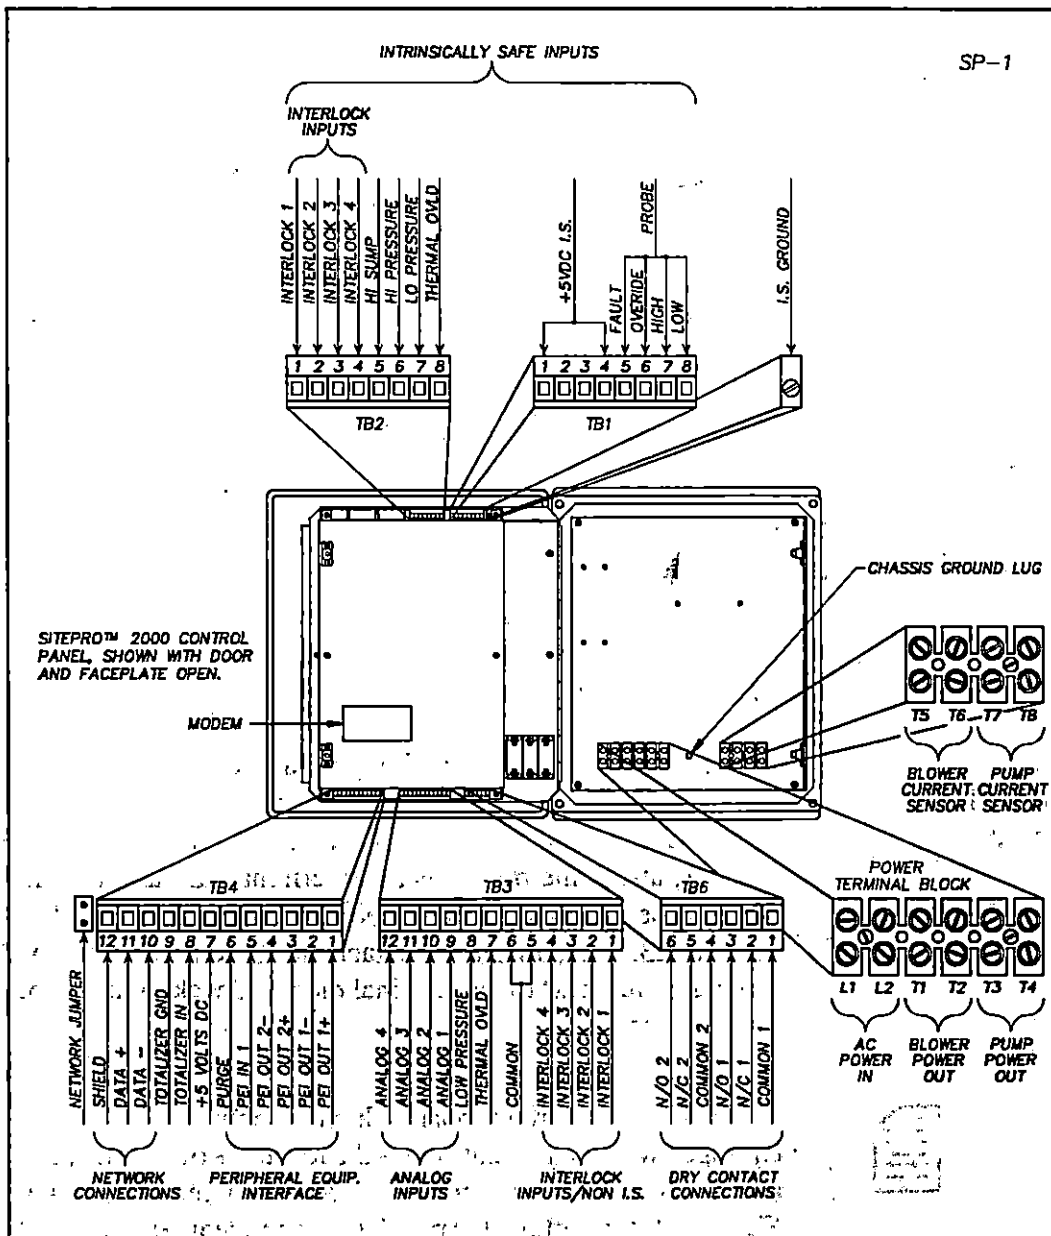
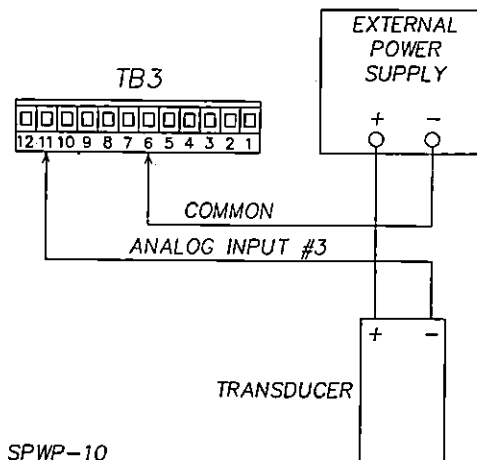

FIGURE 2-1. SITEPRO™ 2000 Blower/Pump Control Panel Wiring Diagram.
FIGURE 2-7. Wiring a pressure transducer or other analog input device to the SITEPRO™ 2000 analog input connections.
Before beginning panel hookup procedures, run a wire from the panel chassis ground lug to a good earth ground such as the circuit breaker panel enclosure. The ground lug is located on the chassis behind the panel faceplate (See the SITEPRO 2000 wiring diagram in Figure 2-1, p. 2-3).
Run power wires through the port at the bottom of the enclosure and attach to the terminal block on the chassis behind the faceplate (Figure 2-1, p. 2-3). In single phase systems, attach the power leads to terminals L1 and L2. In three phase systems, attach the power leads to terminals L1, L2 and L3. In either case, attach the ground wire to the grounding lug next to the terminal block. Check tightness of terminal screws.
The SITEPRO circuit board shield (behind faceplate) is equipped with a label that shows the locations of all terminals and configuration dip switches. Refer to this label (and Figure 2-1) throughout the panel wiring procedures described in this chapter.
Do not run power wires within 2 inches of *intrinsically safe* (IS) wires or terminals. Refer to Figure 2-1 (p. 2-3) for location of IS terminals (at top of panel), and reference *NEC* Article 508 for relevant codes.
Run the pump power wires through the port at the bottom of the enclosure and attach to the PUMP POWER OUT terminals (Figure 2-1, p. 2-3). Attach the ground wire to the chassis grounding lug next to the terminal block. Check tightness of terminal screws. For wiring instructions specific to your pump and blower, refer to the blueprint sized Field Wiring Diagram provided with these items.
Run the blower power wires through the port at the bottom of the enclosure and attach to the BLOWER POWER OUT terminals (Figure 2-1, p. 2-3). Attach the ground wire to the chassis grounding lug next to the terminal block. Check tightness of terminal screws. For wiring instructions specific to your pump and blower, refer to the blueprint sized Field Wiring Diagram provided with these items.
Analog input devices (pressure transducers, thermocouples, etc.) can be interfaced with the telemonitor equipped SITEPRO 2000 if they are wired into the **analog** input connections on TB3 (See Figure 2-1, p. 2-3). Figure 2-7 (p. 2-12) shows how a pressure transducer might be wired to the SITEPRO. Note that the transducer's power supply must be provided by the customer or purchases from ORS.
If your SITEPRO 2000 is equipped with the telemonitoring option, plug your phone jack into the receptacle on the panel modem. Refer to Figure 2-1 (p2-3) for location of modem connections.